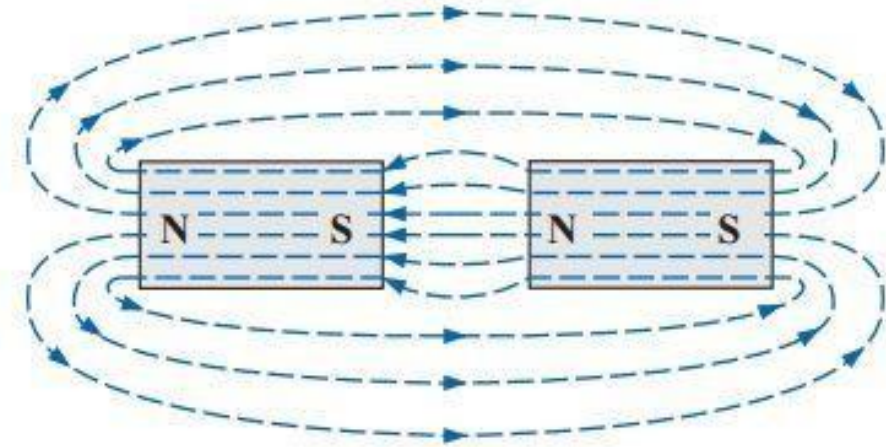

FIG. 11.2
- The continuous magnetic flux line will strive to occupy as small an area as possible. This will result in magnetic flux lines of minimum length between the poles, as shown in Fig. 11.2